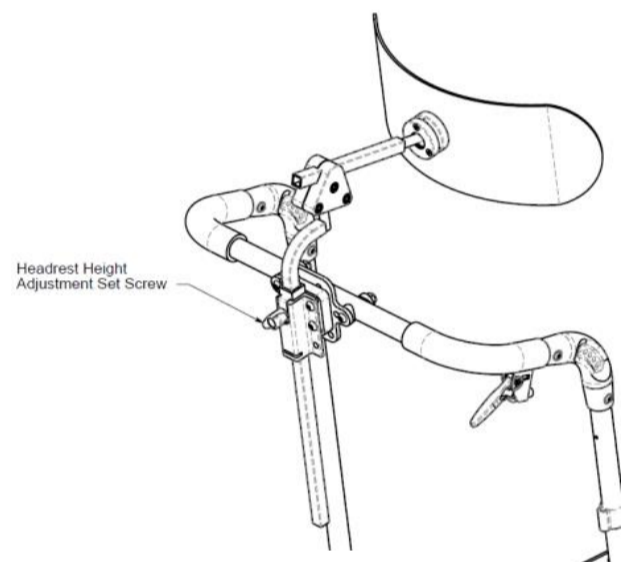

Figure 14.45: Headrest
1. Loosen the "Headrest Height Adjustment Set Screw" and slide the head rest assembly upwards until it is free of the chair (see Figure 14.45).